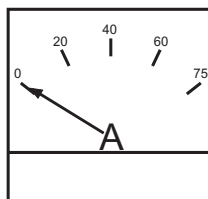

Figure 26. Ammeter (No Load)
7. The ammeter (Figure 26) will indicate zero amps with no load applied. When a load is applied, this meter will indicate the amount of current that the load is drawing from the generator's alternator.